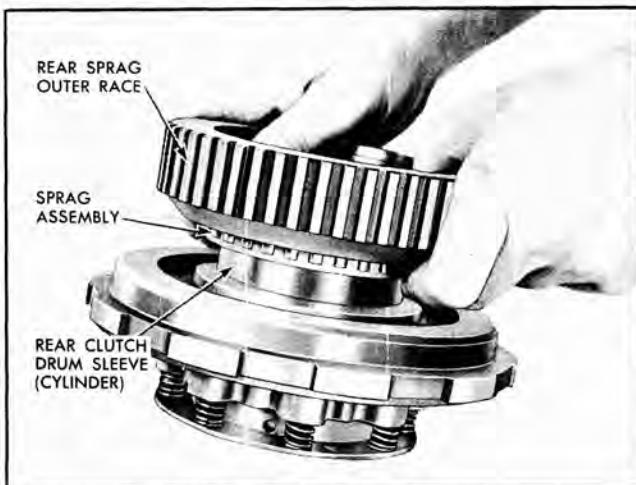

Fig. 94 Installing Sprag and Outer Race on Inner Race
19. Lower sprag and outer race on rear unit inner race (rear clutch cylinder). NOTE: Push sprag part way down through outer race then rotate sprag counterclockwise to assist assembly (Fig. 94).